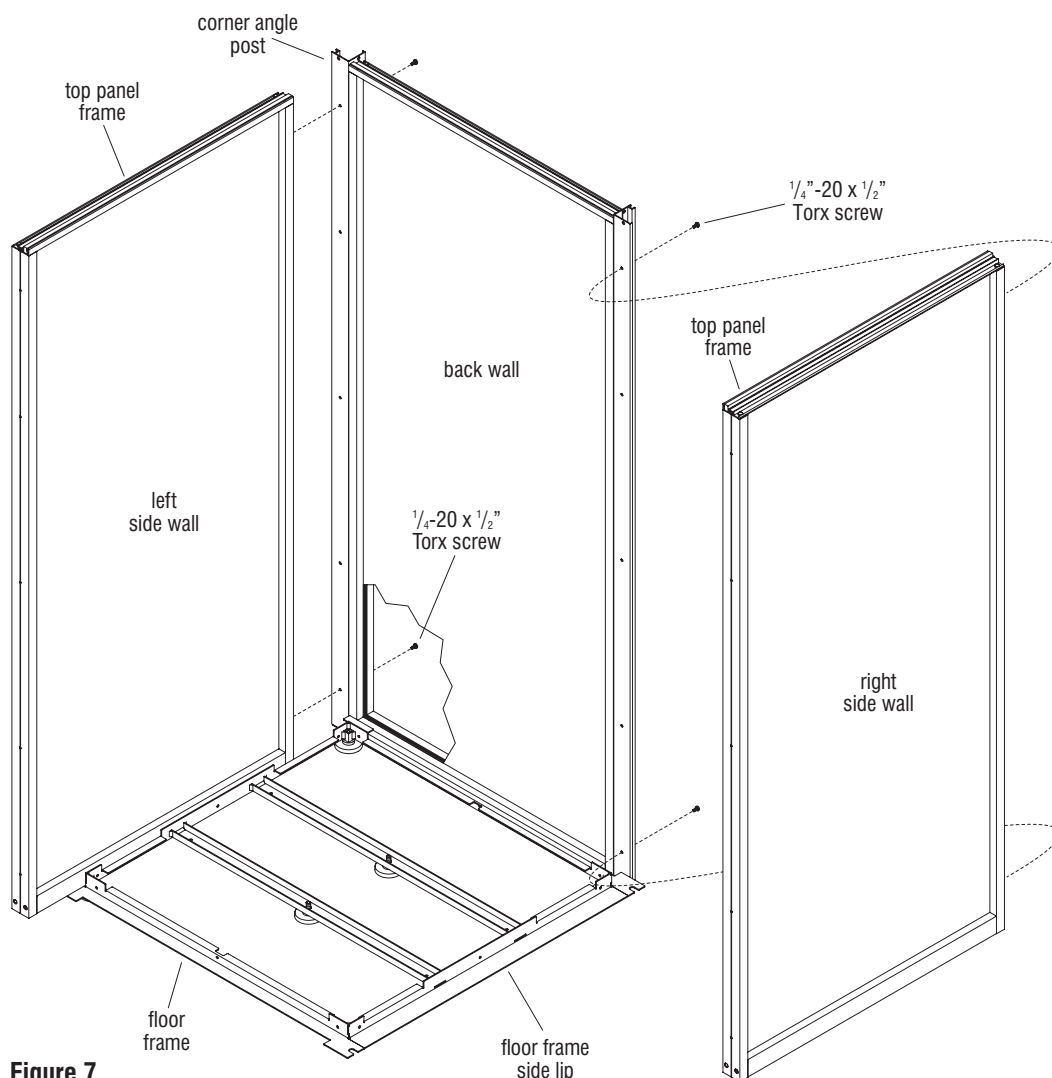

Figure 7
3. Holding the back wall up, position the first side wall in the correct orientation on top of the floor frame side lip, next to the corner angle post of the the back wall. Using a T-30 bit and cordless power drill, loosely secure the angle post to the side wall utilizing the top and bottom mounting holes, using two $\frac{1}{4}$ "-20 x $\frac{1}{2}$ " screws (Figure 7 & Detail F). Once the first side wall is loosely secured to the back wall, the wall assembly is stable enough to support itself in the upright position.
4. Position the second side wall against the available corner angle post which is installed to the back wall as illustrated. Using a T-30 bit and cordless power drill, loosely secure the angle post to the side wall utilizing the top and bottom mounting holes, using four $\frac{1}{4}$ "-20 x $\frac{1}{2}$ " screws (Figure 7 & Detail F).